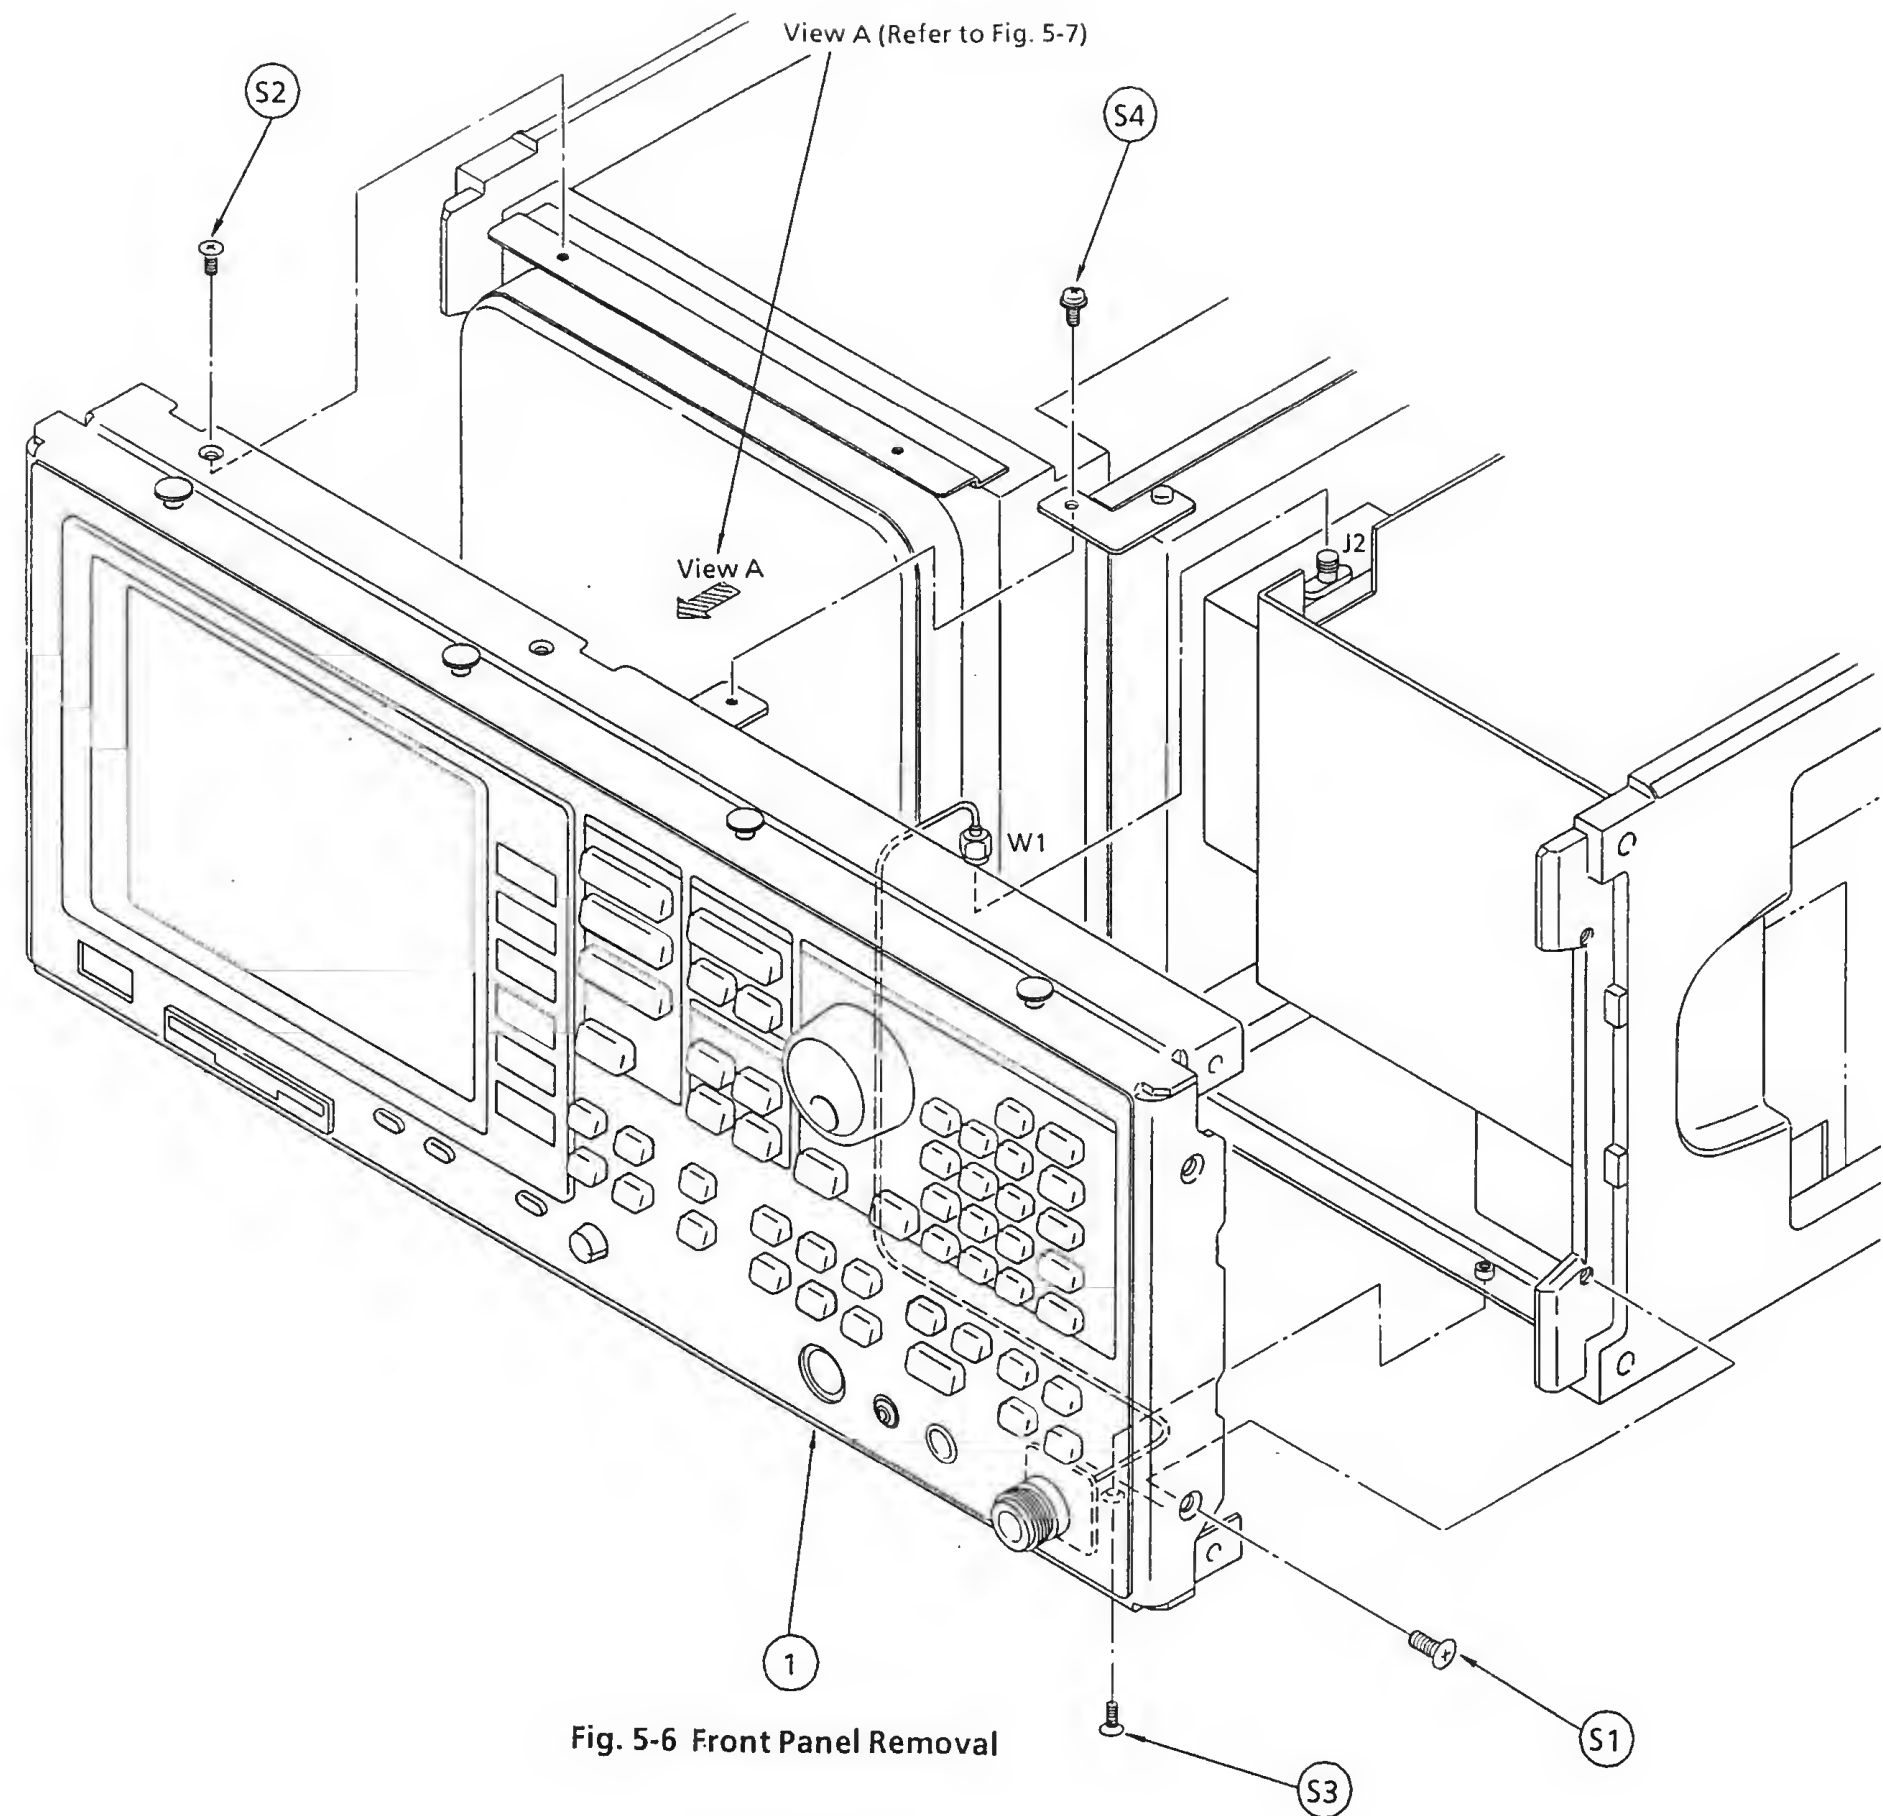

Fig. 5-6 Front Panel Removal
### 5.3.13 Removing front panel unit ① (Fig. 5-6)